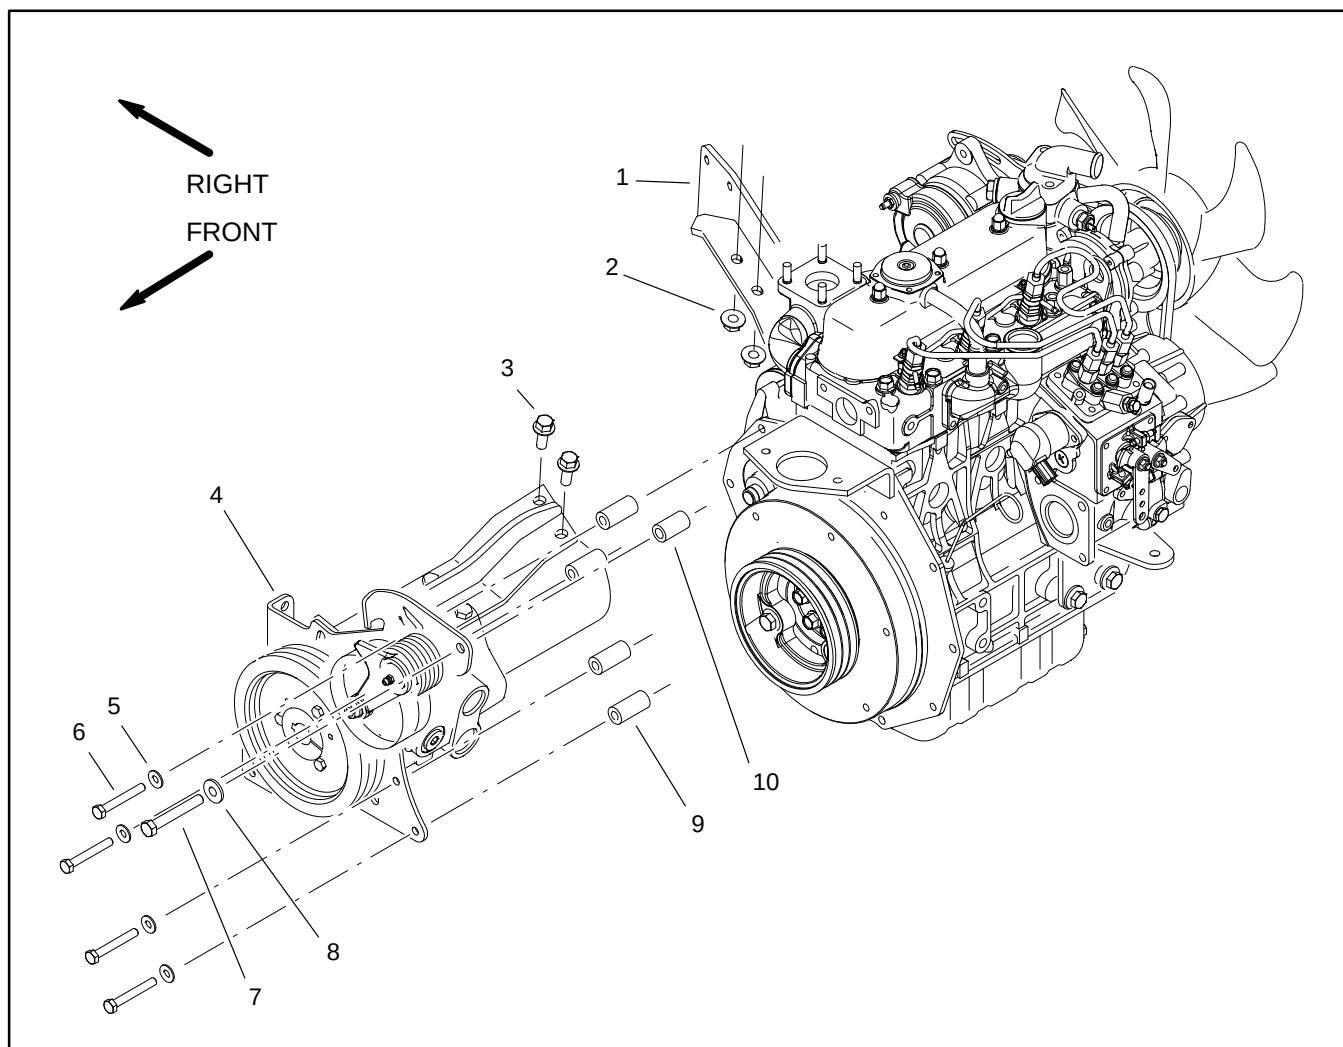

Figure 53
11. Remove fasteners and spacers securing the pump mount plate to the engine (Fig. 53). Note location of cap screws, washers and spacers for assembly purposes.
7. Position pump assembly to the machine. Install fasteners and spacers securing the pump mount plate to the engine and pump support (Fig. 53). Tighten fasteners securely.